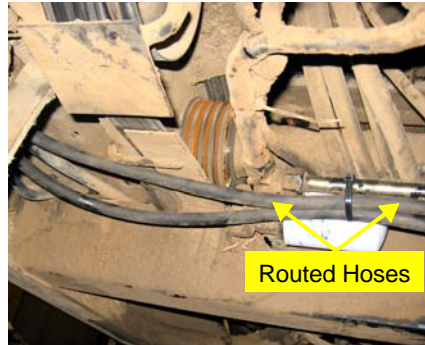

Figure 4c: Routed pressure and tank hoses
- c. Route the pressure and tank hoses from the automated steering block between the cab and frame, then along the center brace. (Figure 4c)